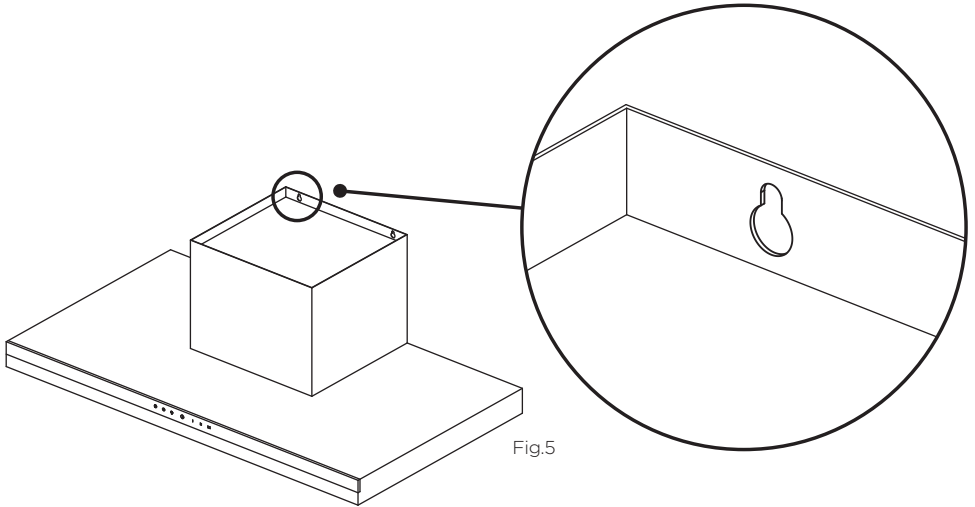

Fig.5
- Hang hood off upper hood mounting screws with 2 mm gap. Hang off the keyhole attachment points on the back of the hood (see Fig.5). Tighten screws.
⑤ Attach ducting